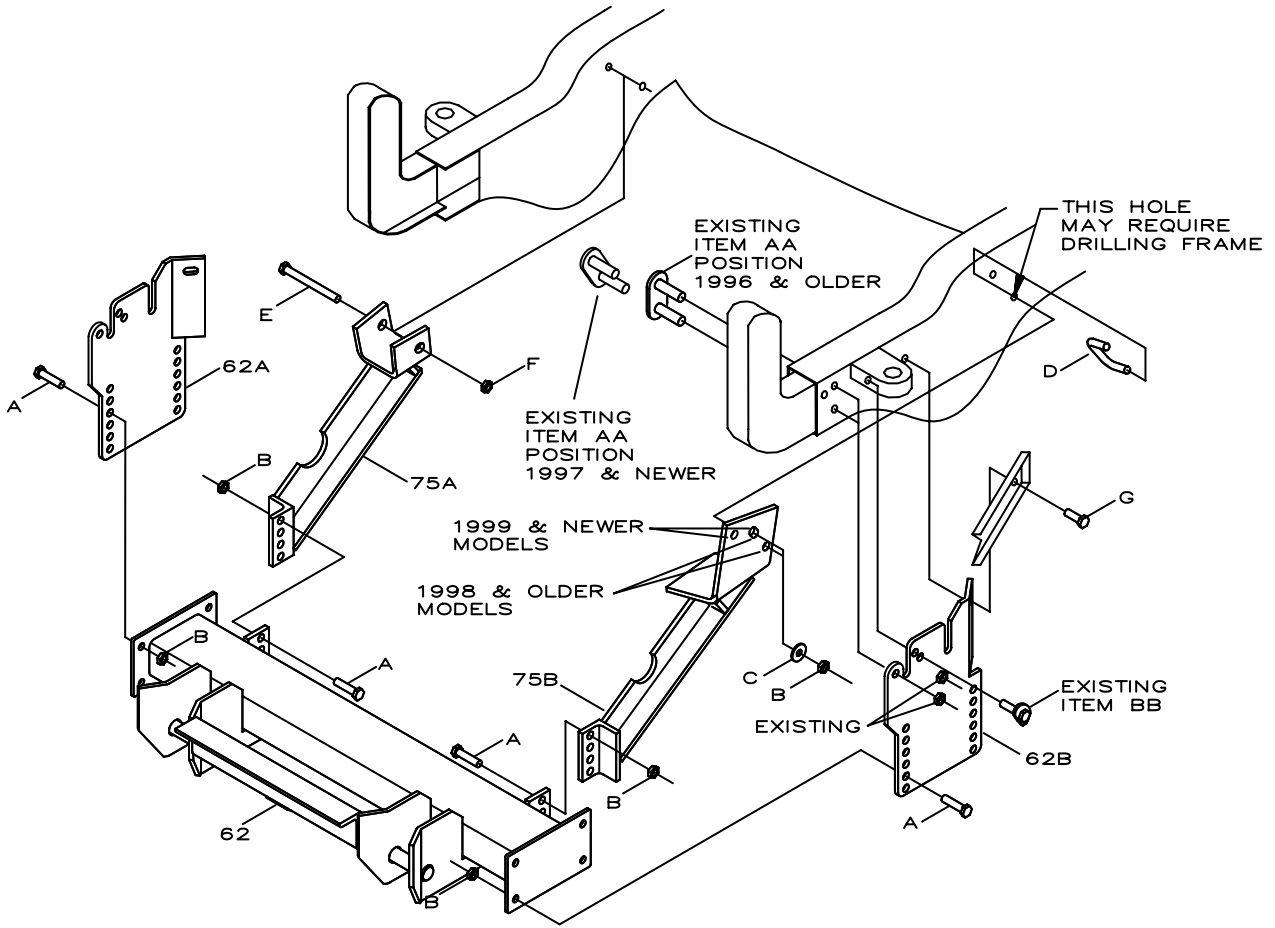

Figure 1
1. Loosen and remove the bolt bar (existing item AA, see Fig. 1) from the frame/bumper mounting tab. Loosen and remove the single bolt from the frame/bumper mounting tab (existing item BB, see Fig. 1). Loosen, remove and discard the bolt from the corner bumper brace. This item will be replaced by item G(see Fig. 1). When re-using the bolt bar (on 1997 & newer vehicle applications) insert the bar from the center of the vehicle outward. Only (1) stud of the bolt bar will be securing the PUSHBEAM SUPPORT PLATES (Ref. 62A and B, Fig 1). Installing the bolt bar as described will allow the nuts to be re-tightened on two different surface levels. Position the PUSH BEAM SUPPORT PLATES (Ref. 62A and B, Fig. 1) to the front frame rails of the truck. Using the vehicles existing bumper bracket hardware and item G bolts, bolt the PUSH BEAM SUPPORT PLATES in place (see Fig. 1). Fasteners should only be finger tight.
2. Bolt the PUSH BEAM (Ref. 62, Fig. 1) in place as shown using the $\frac{1}{2}$ " – 13 x 1- $\frac{1}{2}$ " hex head bolts and self locking nuts provided. NOTE: the proper height adjustment for the PUSH BEAM is approximately 12- $\frac{1}{2}$ " for the 7'6" V or 13- $\frac{1}{2}$ " for the 8'2" V, 9'2" V, and straight blade from the ground to the center of the PUSH BEAM MOUNTING ROD
3. Install the LEFT ANGLE BRACKET (Ref. 75B, Fig. 1) from the mounting points on the PUSH BEAM to the truck frame. On some models it may be necessary to drill the frame for the lower hole (see Fig. 1). Using the $\frac{1}{2}$ " – 13 x 1- $\frac{1}{2}$ " hex head bolts, $\frac{1}{2}$ " – 13 U-bolt (Ref. D, Fig. 1) and the self locking nuts, secure the LEFT ANGLE BRACKET to the PUSH BEAM and the vehicle frame. Fasteners should only be finger tight.
4. Install the RIGHT ANGLE BRACKET (Ref. 75A, Fig. 1) from the mounting points on the PUSH BEAM to the truck frame. Using the $\frac{1}{2}$ " – 13 x 1- $\frac{1}{2}$ " hex head bolts, the $\frac{1}{2}$ " – 13 self locking nuts, the $\frac{5}{8}$ " – 11 x 5" hex head bolt and self locking nut (Ref. E & F, Fig. 1), secure the RIGHT ANGLE BRACKET to the PUSH BEAM and the vehicle frame. Fasteners should only be finger tight.